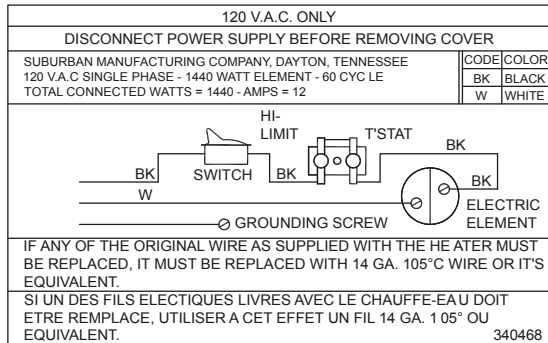

Figure 8
**D.** Check rating plate and wiring diagram (Figure 8) before proceeding. Install a fused safety switch or circuit breaker of adequate capacity between heater and electrical power source. Attach the black and white wires from the fused switch or breaker to corresponding colored wires in heater junction box. A green wire from a well grounded source must be attached to the green nut in the junction box.